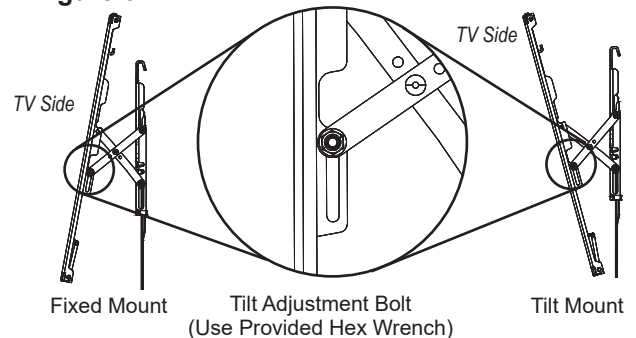

Figure 7
If display is not horizontally level when mounted, adjustment screws are included at the top of each arm for micro-adjustments (Figure 7). Use the provided hex wrench (N) to raise or lower the screw and adjust the mount accordingly.